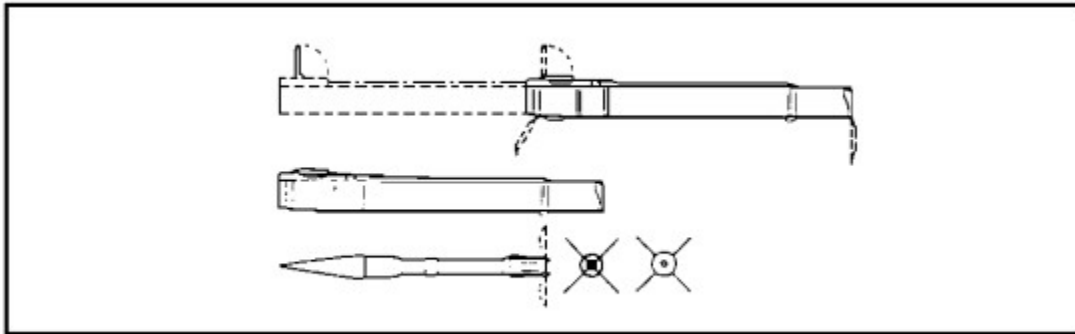

Figure 2-3. AT Rocket Launcher RPG-18.
a. AT Rocket Launcher RPG-18. The following paragraphs discuss the RPG-18 Rocket Launcher (shown in Figure 2-3).